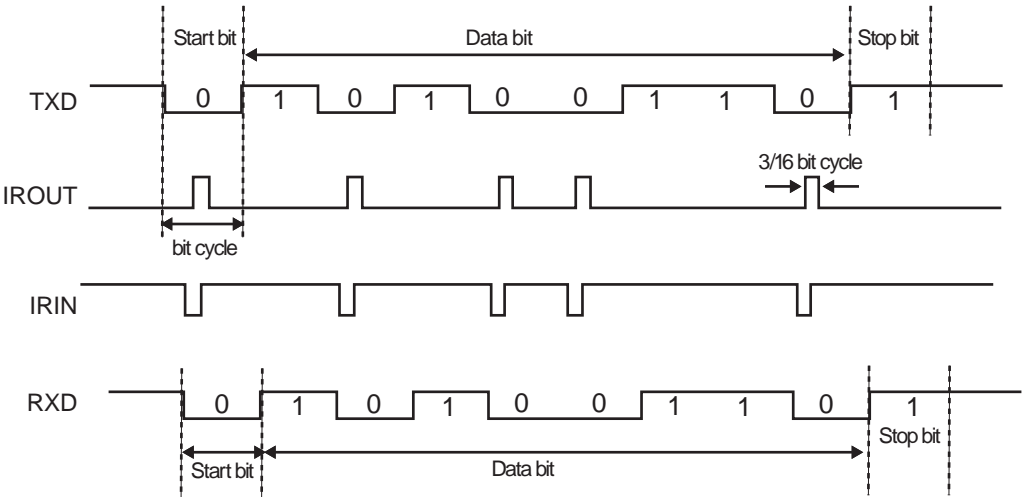

Figure 15-4 IrDA Data Modulation
**Note:** The transmit encoder output (IROUT) has the opposite polarity to the receive decoder input (IRIN). Please refer to Figure 15-4